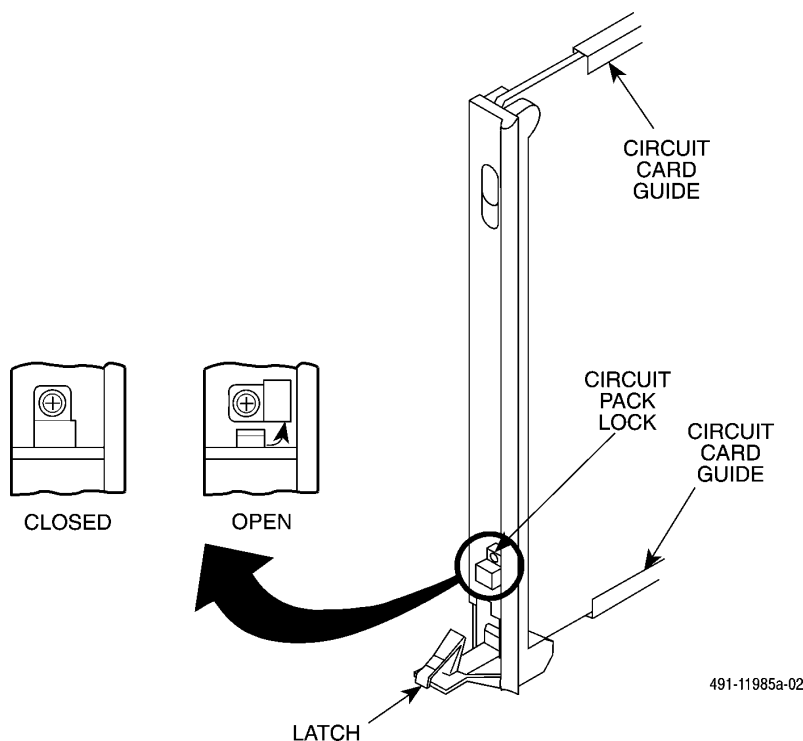

Figure 3-16. Circuit Pack Lock
3. Using a Phillips screwdriver, loosen the screw holding the circuit pack lock and rotate the lock to the open position (Figure 3-16).